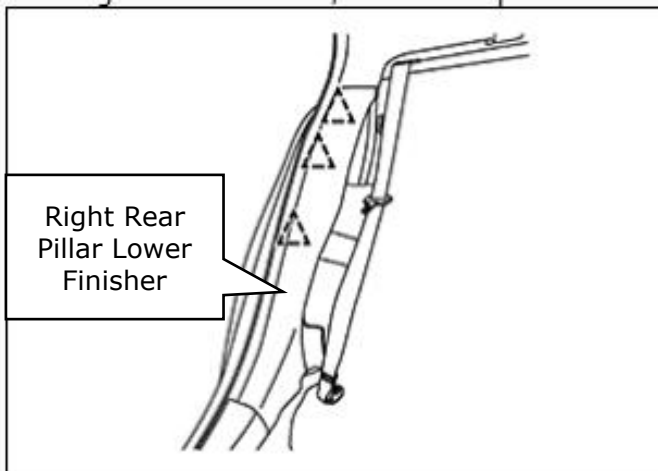
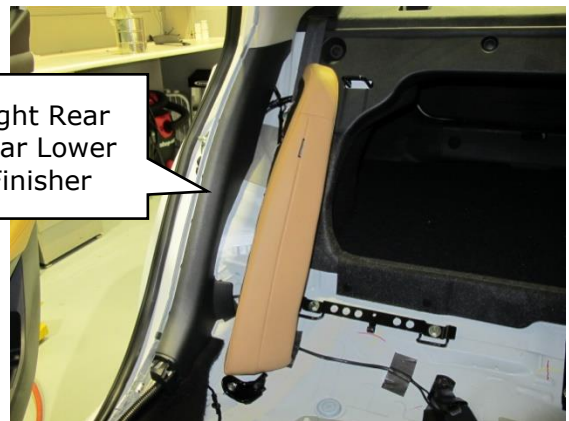

Figure 12
Figure 13
- Using a suitable tool, release the retaining clips shown in Figure 12 and remove the right rear pillar lower finisher (Figure 13)